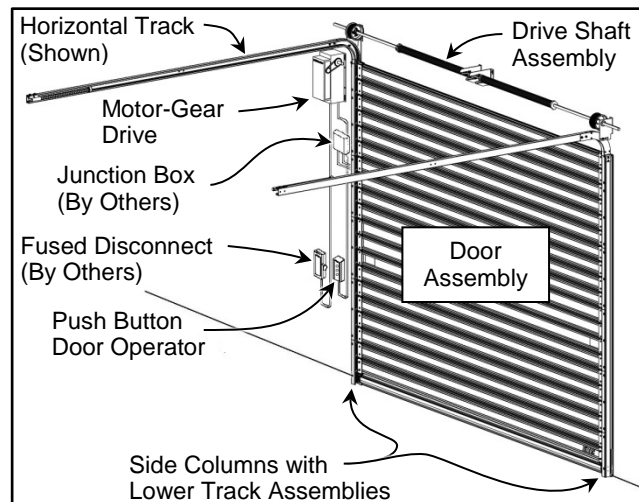

Figure 4
1. Install fused disconnect and LiftMaster Door Operator. (See Figure 4 for typical installation.)
Figure 4 shows the location of the major components of your Spiral VP Balanced Drive door. This illustration should be used as reference only and should not be considered as part of the installation instructions.